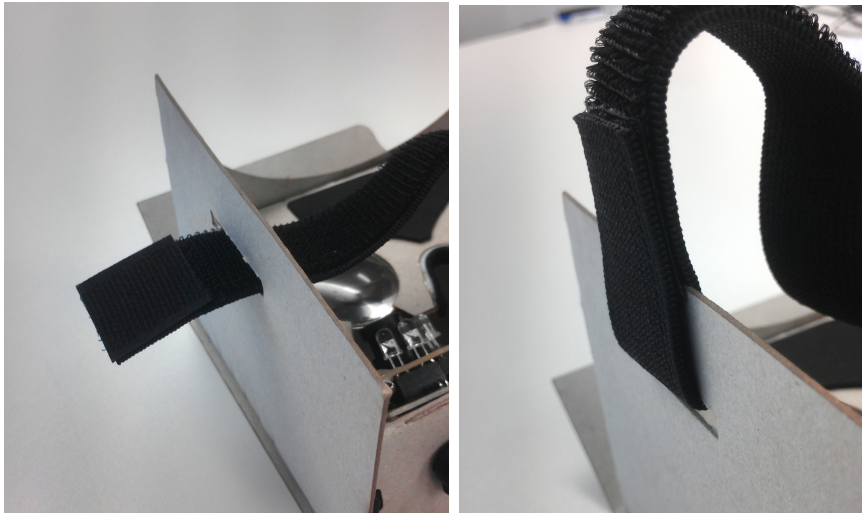
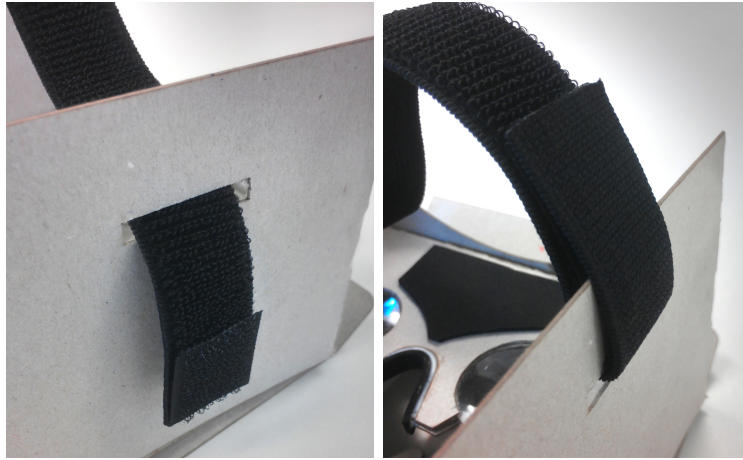
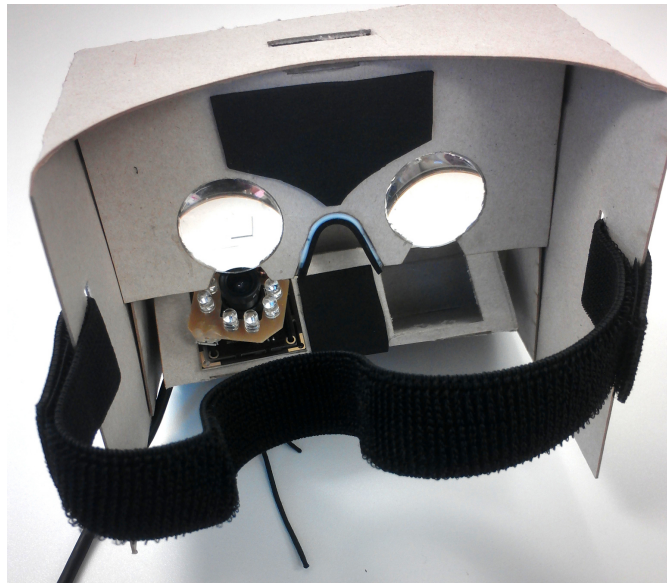

Figure 1.0.34: Attach the rubber band on the left side of the cardboard
Figure 1.0.35: Attach the rubber band on the right side of the cardboard
Figure 1.0.36: Cardboard with one attached Velcro rubber band
15. Now take one Velcro rubber band attach one end to the left slot of the cardboard, as shown in figure 1.0.34. Then pull the other end of the Velcro rubber band through the right slot of the cardboard, as shown in figure 1.0.35. The result should look like on the figure 1.0.36.